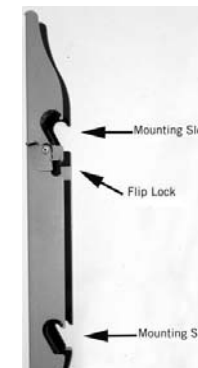
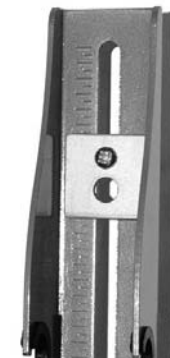

Fig. 2
Fig. 3
For proper installation, make sure that each rail mounting slot is facing down, with the flip lock facing towards the outside of the display. (Fig. 2) Use the selected screws and the square washers (L) to mount the rails to the back of the plasma display. Adjust the rails to equal heights on the back of the display using the alignment marks on the rails as a reference. (Fig. 3) Once aligned, tightly secure the mounting screws.